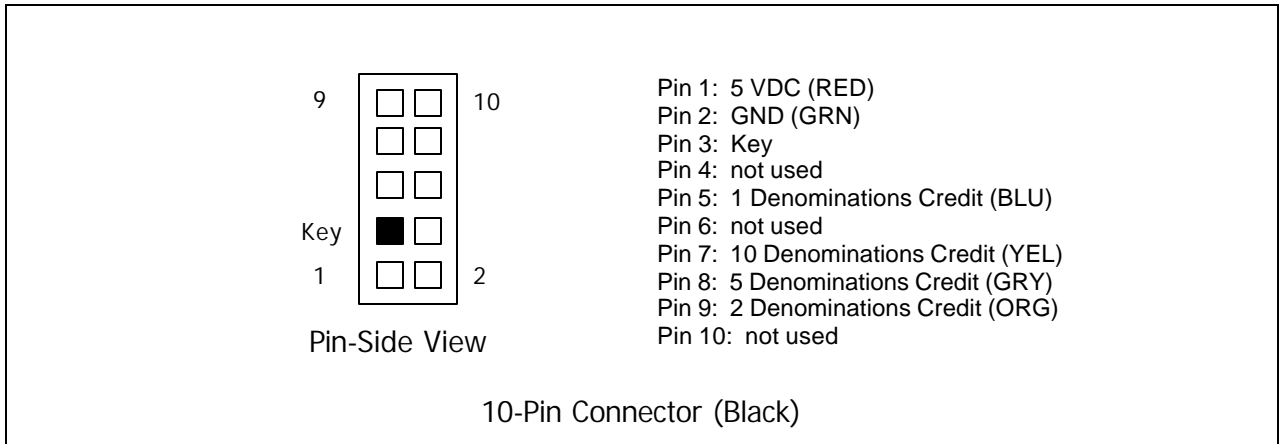

Figure 8. Connector Pin Assignments for A2A/A2 Protocol Adapter Assembly (Sheet 2 of 2)
- c. For A2A/A2 Protocol Adapter Assembly, make the connections in **Figure 7**; for connector pin assignments, refer to **Figure 8**.